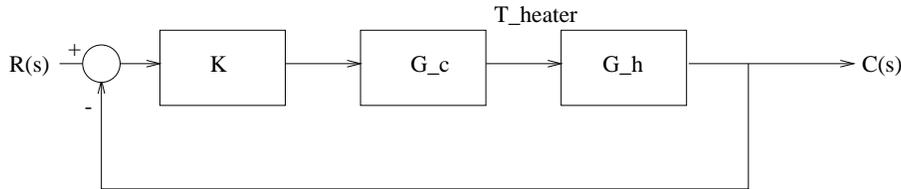

Figure 2: Water temperature control loop - desired temperature R, output C
- (b) Divya now embarks upon using feedback, as in the block diagram in Figure 2. At first, Divya tries compensating the system with $G_c(s) = 1$ and just varying the proportional gain K .